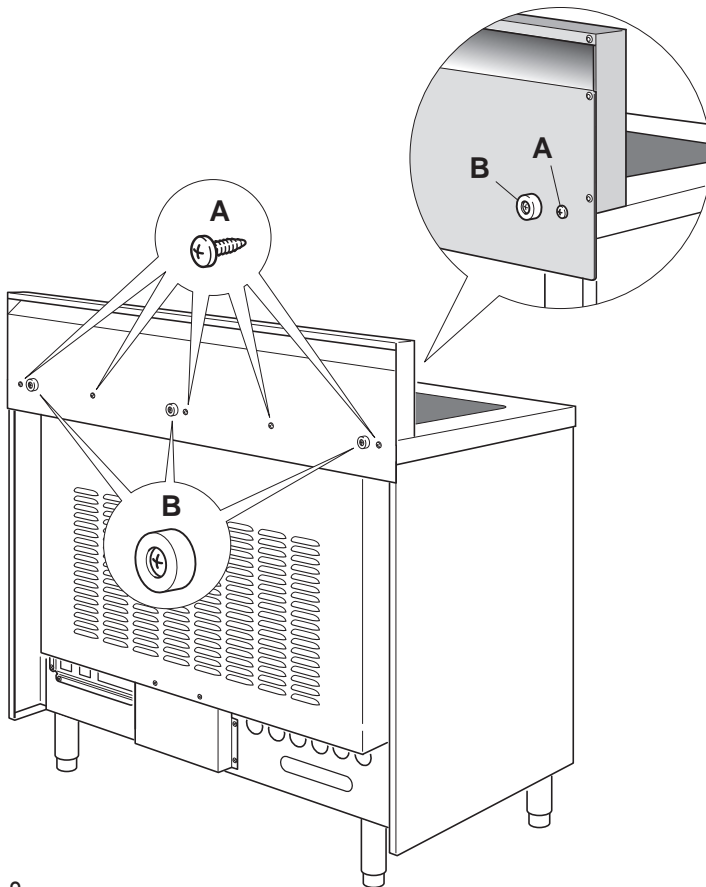

Fig. 1.8
- Assemble the backguard as shown in figure 1.8 or 1.9 and fix it by screwing the 5 screws "A" (which are already fixed on the back of the cooktop).